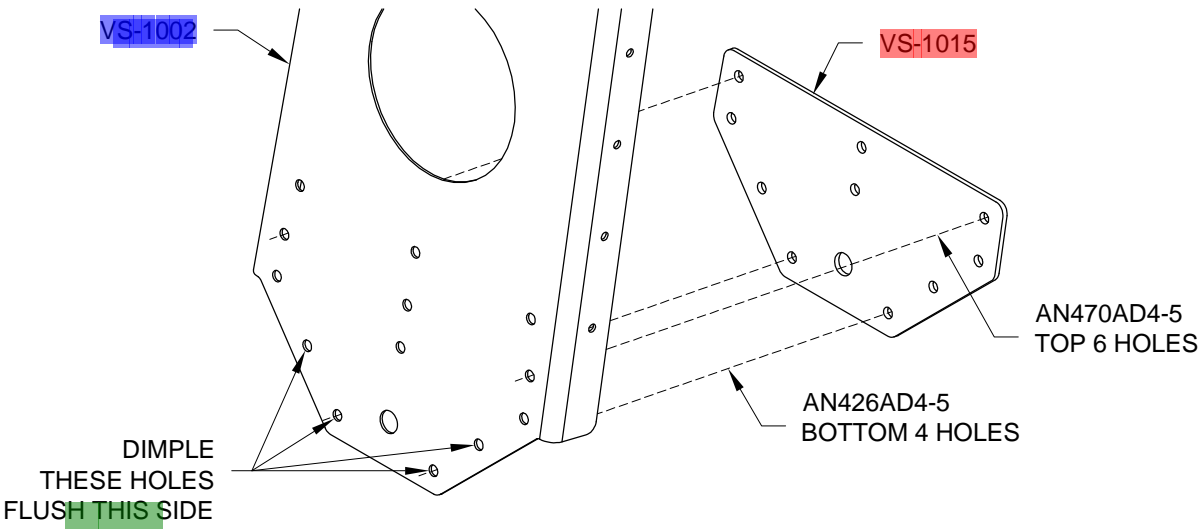

FIGURE 1: FRONT SPAR DOUBLER ATTACHMENT
Dimple the four bottom holes in the front spar (see Figure 1) and machine countersink (Section 5E) the corresponding holes in the front spar doubler. Dimple the flange holes of the front spar for the skin.
Step 4: Attach the **VS-1015** Front Spar Doubler to the **VS-1002** Front Spar using the rivets called out in Figure 1.